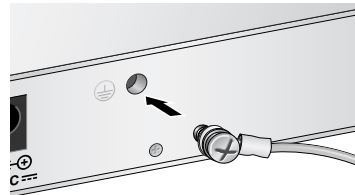

Figure 17 Securing Cable Lug with M4 Screw
3. Secure the cable lug with the M4 screw to the rear panel of the Provider unit, as illustrated in Figure 17.